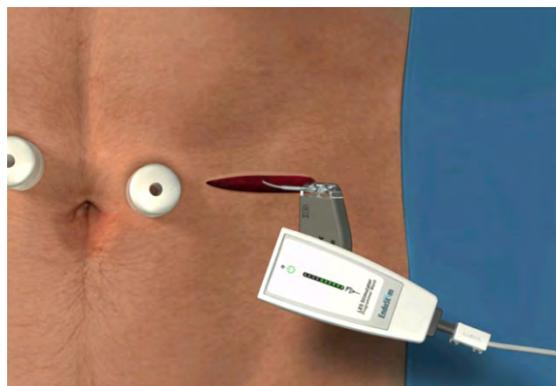

Figure 30 Day of Surgery – Programmer Wand over IPG (IPG Out of Pocket)
1. Place the Programmer Wand in a sterile sleeve and then bring the Programmer Wand into the sterile field (Figure 30). Keep the Programmer Wand in the sterile field, if necessary, by temporarily disconnecting it from the Tablet PC.